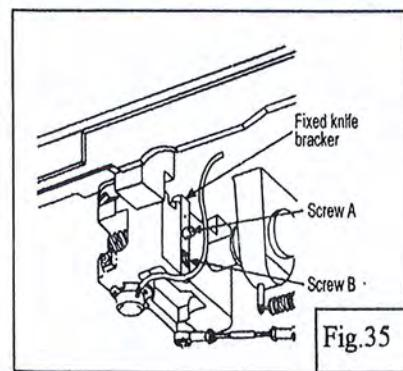

Fig.35
25) Adjustment of scissoring pressure of movable knife and fixed knife (Fig.35)